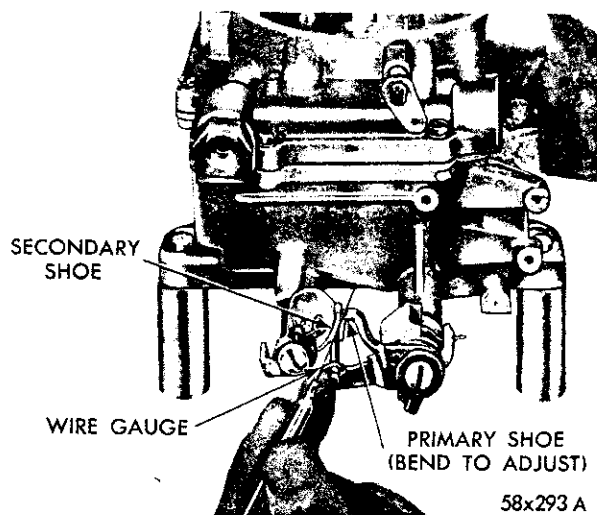

Fig. 38—Checking Clearance Between Closing Shoes
(6) With the primary and secondary throttle valves in the tightly closed position, it should be possible to insert Tool T109-29 (.020 inch) wire gauge, between the positive closing shoes on the secondary throttle levers, as shown in Figure 38.
(7) If an adjustment is necessary, bend the shoe on the secondary throttle lever, using Tool T109-22, until correct clearance has been obtained.